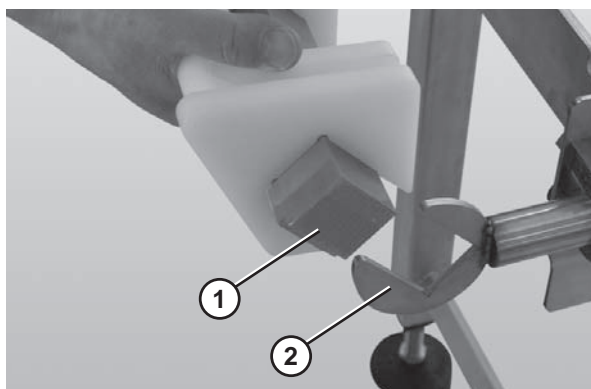

Figure 23
3. Attach the nose bar transfer post (Figure 23, item 1) to the nose bar idler shaft hands (Figure 23, item 2).